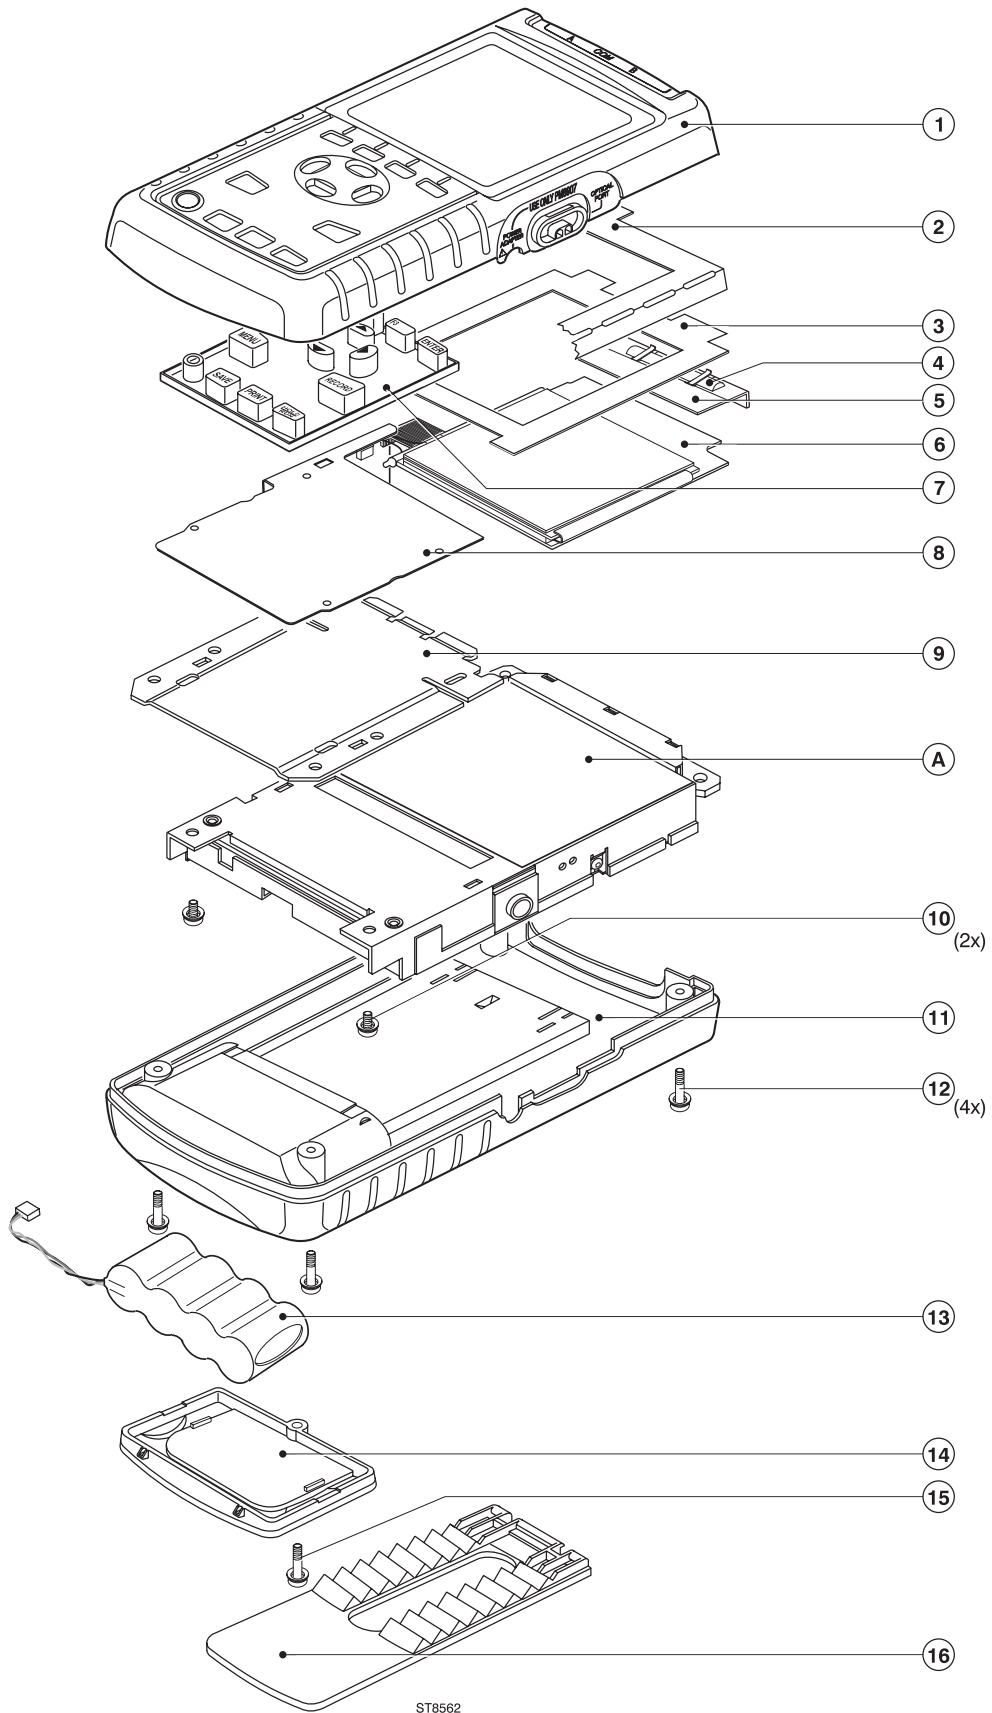

Figure 6-1. Fluke 43B Main Assembly
Referring to Figure 6-1, use the following procedure to remove the battery pack.
Referring to Figure 6-1, use the following procedure to remove the bail (item 16).
Referring to Figure 6-1, use the following procedure to open the test tool.
Referring to Figure 6-1, use the following procedure to remove the main PCA unit.
There are no serviceable parts in the display assembly. Referring to Figure 6-1, use the following procedure to remove the display assembly.
Referring to Figure 6-1, use the following procedure to remove the keypad and the keypad foil.
Reassembling the test tool is the reverse of disassembly. However you must follow special precautions when reassembling the test tool. Refer also to figure 6-1.